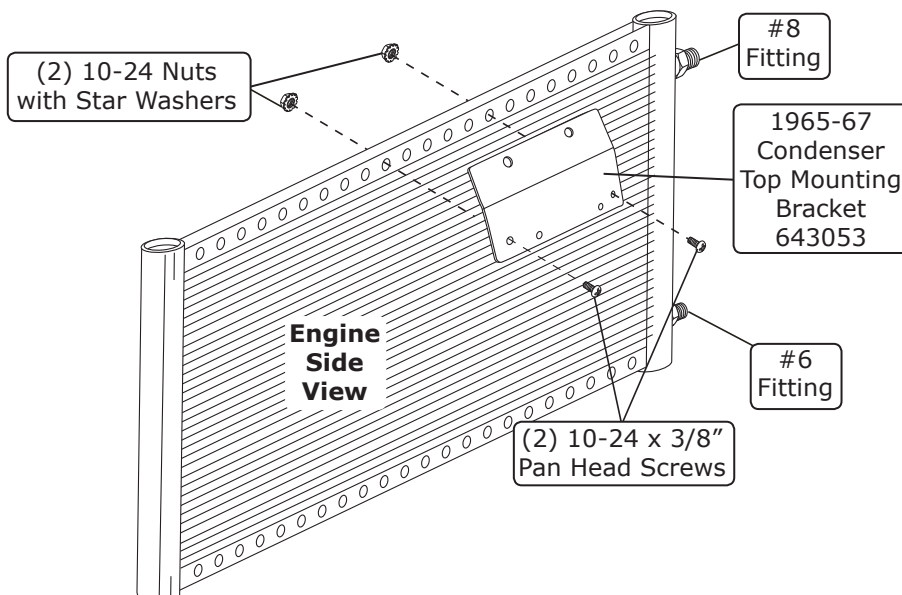

Figure 14
1. Install the top mounting bracket onto the condenser using (2) 10-24 x 3/8" pan head screws and (2) 10-24 nuts with star washers (See Figure 14, below). **NOTE: The bracket mounts through the 10th & 15th holes from the left side of the condenser.**